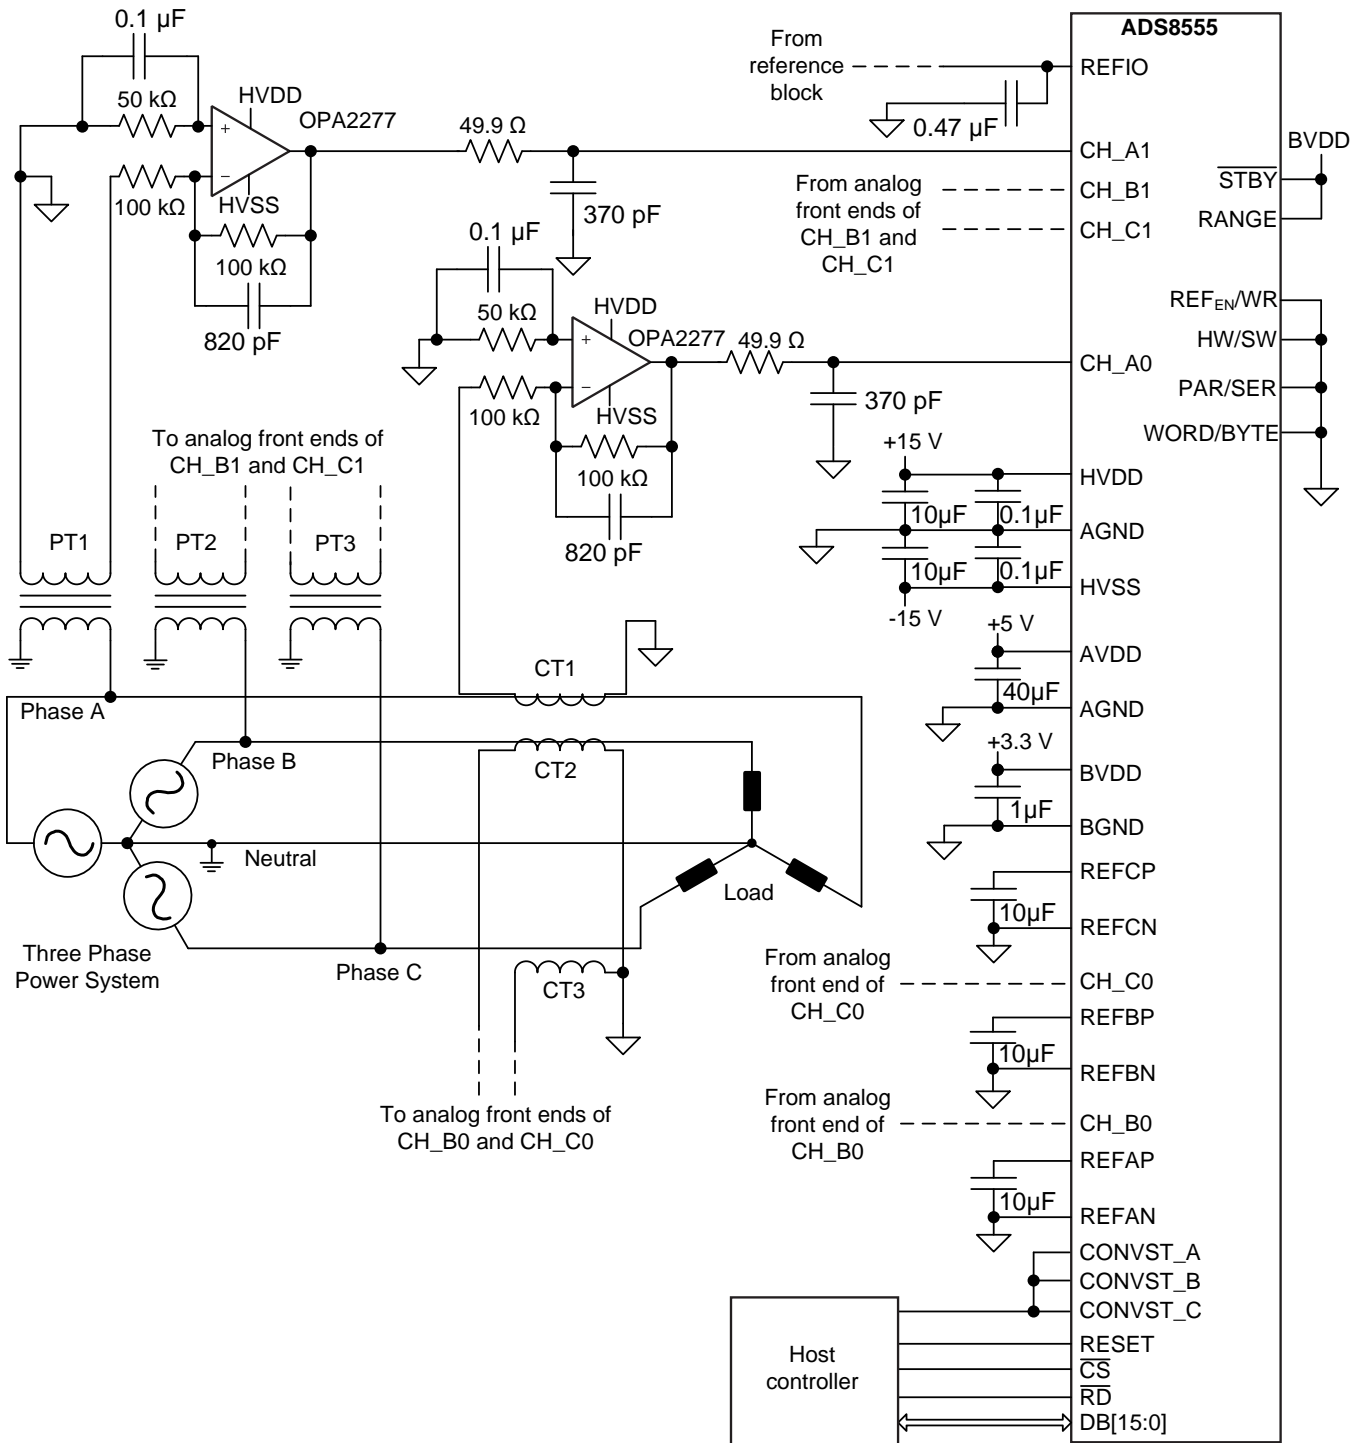

Figure 36. Simultaneous Acquisition of Voltage and Current in a 3-Phase Power System
The accurate measurement of electrical variables in a power grid is extremely critical because it helps determine the operating status and running quality of the grid. Such accurate measurements also help diagnose problems with the power network thereby enabling prompt solutions and minimizing down time. The key electrical variables measured in 3-phase power systems are the three line voltages and the three line currents; see Figure 36. These variables enable metrology and power automation systems to determine the amplitude, frequency and phase information to perform harmonic analysis, power factor calculation and power quality assessment among others.
- Output range of the potential transformers (elements labeled PT1, PT2, and PT3 in Figure 36)
- Output range of the current transformers (elements labeled CT1, CT2, and CT3 in Figure 36)
The potential transformers (PTs) and current transformers (CTs) used in the system depicted in Figure 36 provide the six input variables required. These transformers have a  $\pm 10$ -V output range. Although the PTs and CTs provide isolation from the power system, the value of  $R_{IN}$  is selected as 100 k $\Omega$  to provide an additional, high-impedance safety element to the input of the ADC. Moreover, selecting a low-frequency gain of  $-1$  V/V (as shown in Equation 5) provides a  $\pm 10$ -V output that can be fed into the ADS8555 device; therefore, the value of  $R_F$  is selected as 100 k $\Omega$ .
The primary goal of the acquisition system depicted in Figure 36 is to measure up to 20 harmonics in a 60-Hz power network. Thus, the analog front-end must have sufficient bandwidth to detect signals up to 1260 Hz, as shown in Equation 6.